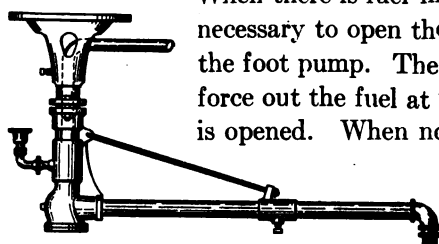

Fig. 34. Ceiling Washing Appliance
**Washing Apparatus.** An overhead washer is admitted to be the best form and one which can be easily made as shown in Fig. 34. This is constructed from ordinary water pipe, preferably galvanized, and various standard fittings, only two special fittings being needed, viz, a swivel joint, without which the apparatus could not turn, and a special fitting to which the brace is attached. The top portion is